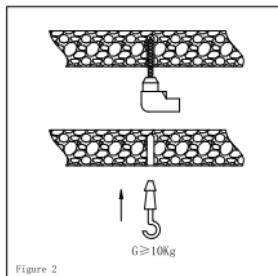

Figure 2
2. Installare il gancio sul tetto. (Si suggerisce un gancio M10 con portata superiore a 10Kg). (fig.2)
2. Install the hook on the roof. (Suggest the hook which is M10 and its load-bearing is more than 10Kg.) (see fig.2)